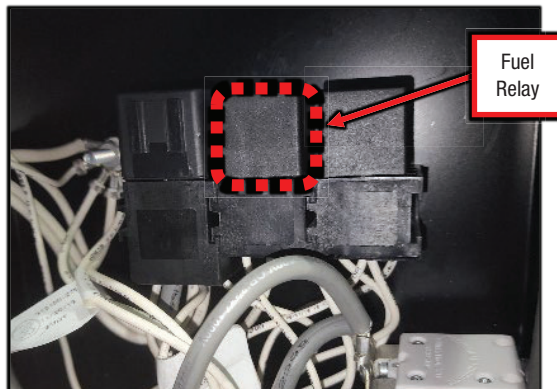

Figure F.2
A.2. Label and disconnect the Fuel Relay from its socket, refer to Figure F.2.